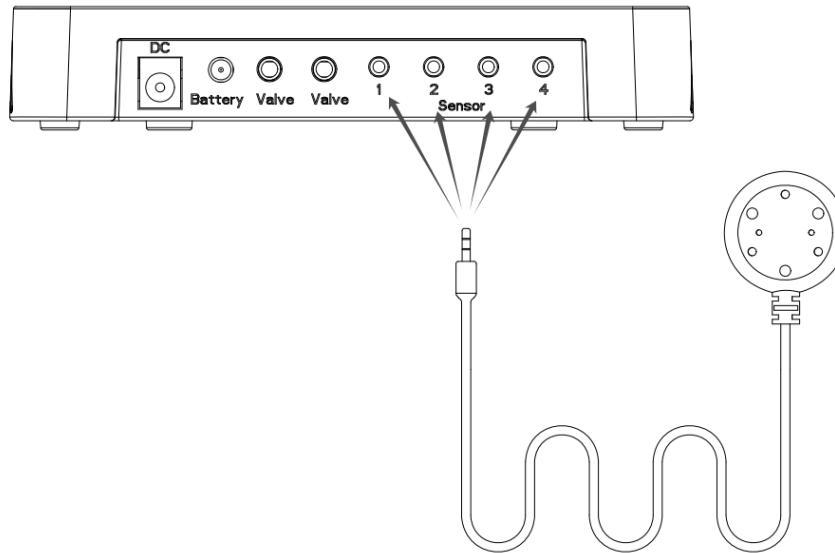

Figure 13
- 1) Insert the Wired Water Sensor into the Central controller (refer to Figure 13)